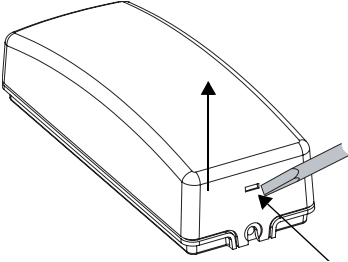

Figure 2. Removing the Cover
- Always mount the shock sensor so that the detector is on the frame and not on the glass. See Figure 2 for mounting locations.
1. Insert a slotted screwdriver into the slot at the top end of the unit and remove the cover by lifting it up (see Figure 2).